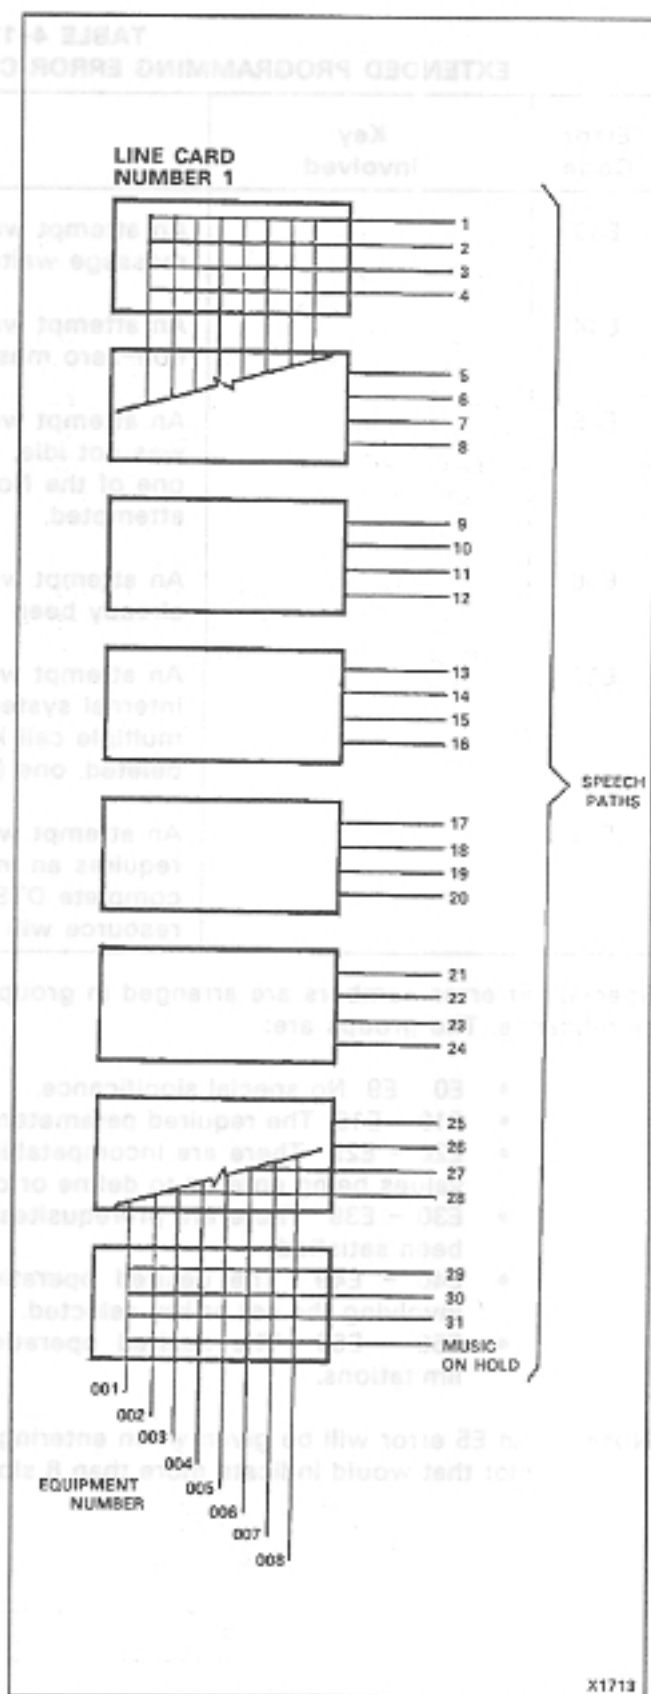
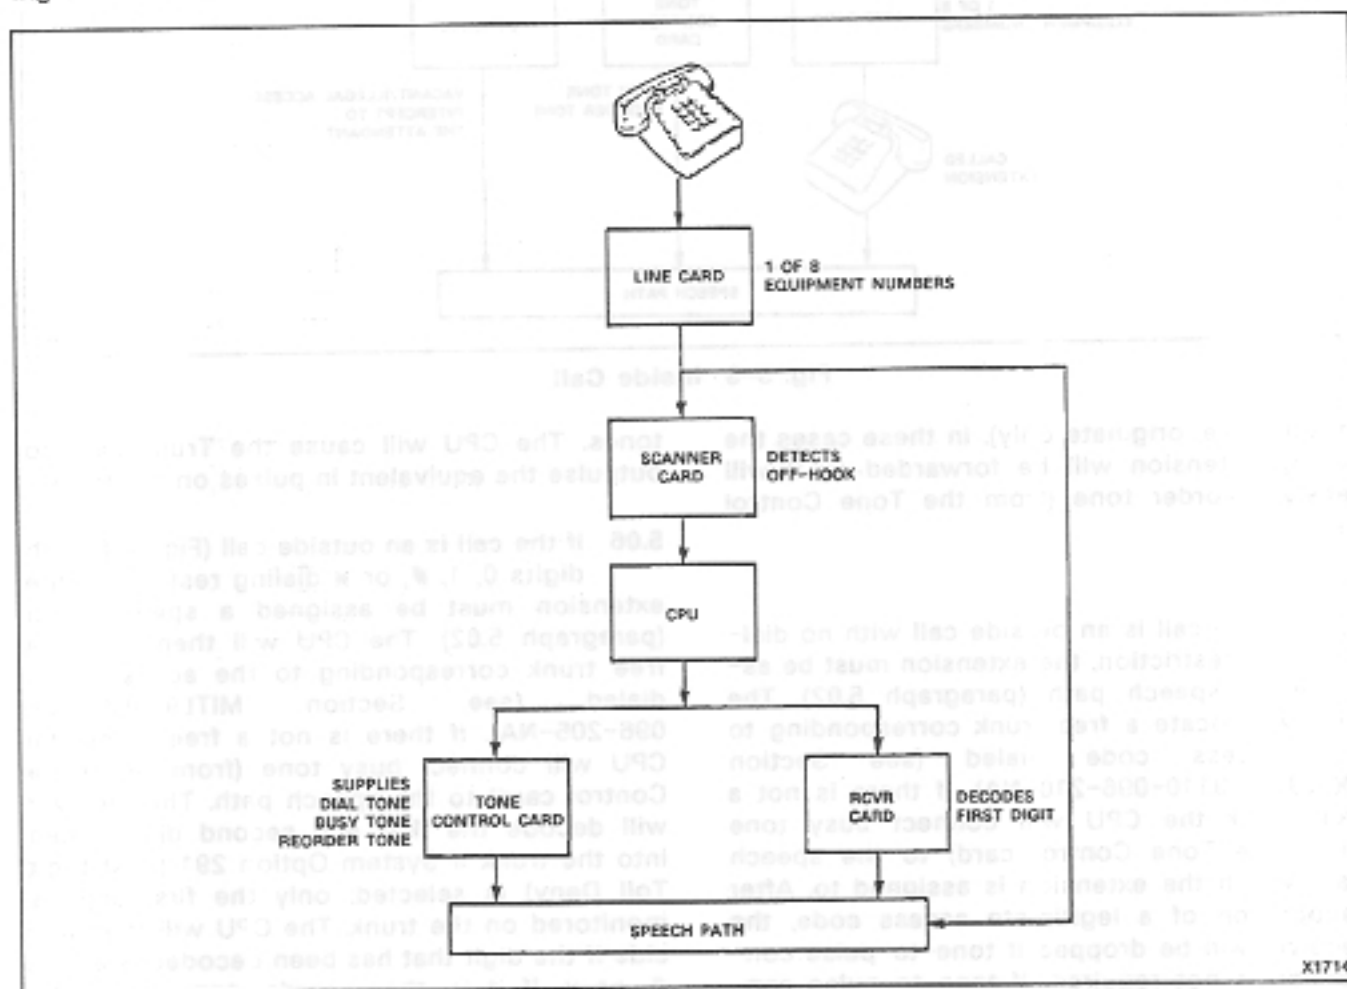

Fig. 5-1 Speech Paths
Fig. 5-2 Select a Speech Path
5.01 Each extension is assigned to a specific equipment number on a specific Line card (Fig. 5-1). When an extension goes off-hook, it will complete a circuit and draw loop current. This loop current will cause the LED (on the line card) associated with that equipment number to light. At this time there are up to 31 speech paths available for assignment to the off-hook extension. Each Line card has an 8 x 32 switching matrix, providing access to 31 speech paths and 1 Music on Hold (MOH) path (Fig. 5-1). The Scanner card will detect the off-hook condition on the Line card and report the equipment number to the Central Processor Unit (CPU). The CPU (through its Random Access Memory or RAM) will find a free speech path and test it, using circuits on the Tone Control card. After the speech path is tested, the CPU connects it to the line circuit and a free receiver is located. The selected receiver, and dial tone from the Tone Control card, are then connected to the free speech path (Fig. 5-2).